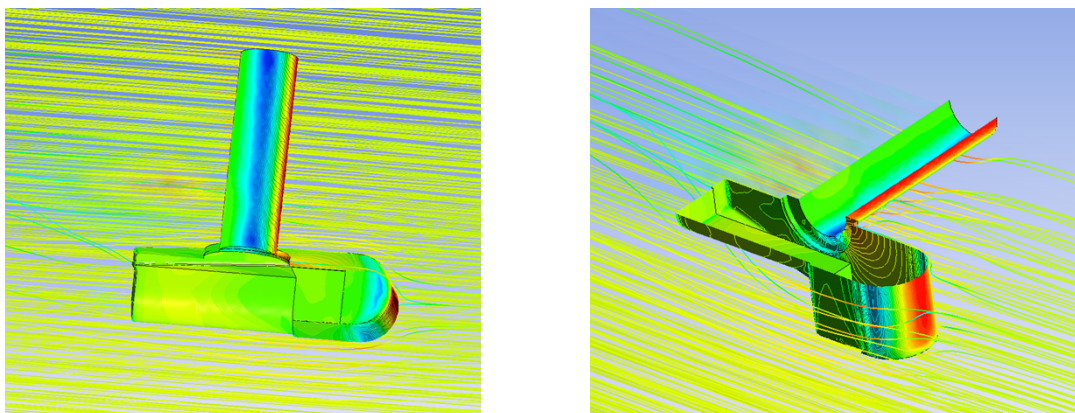
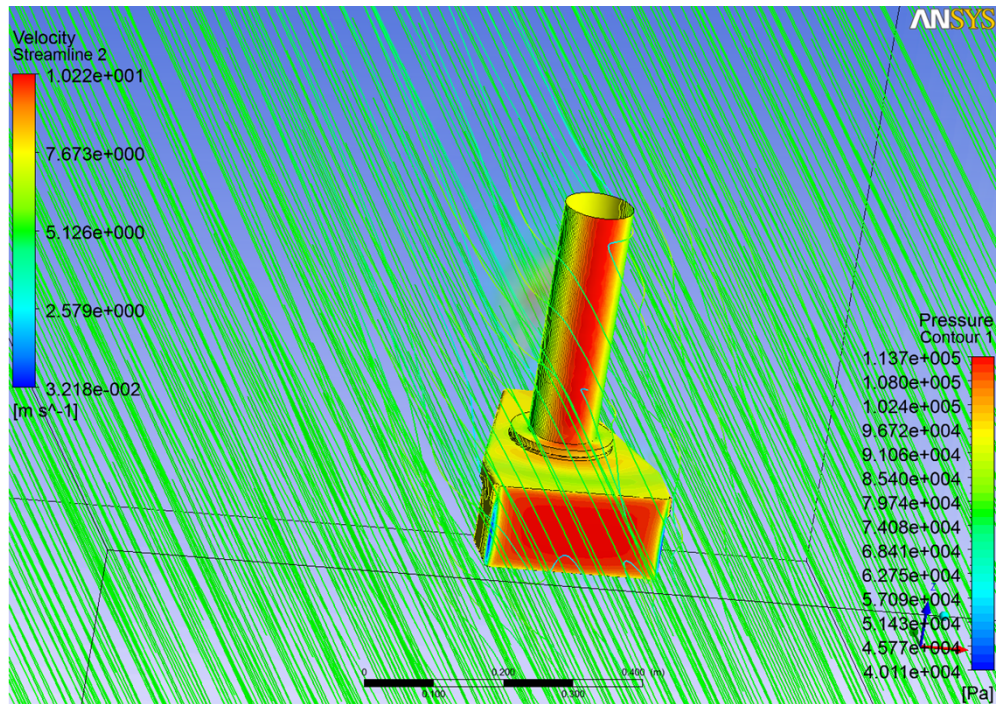
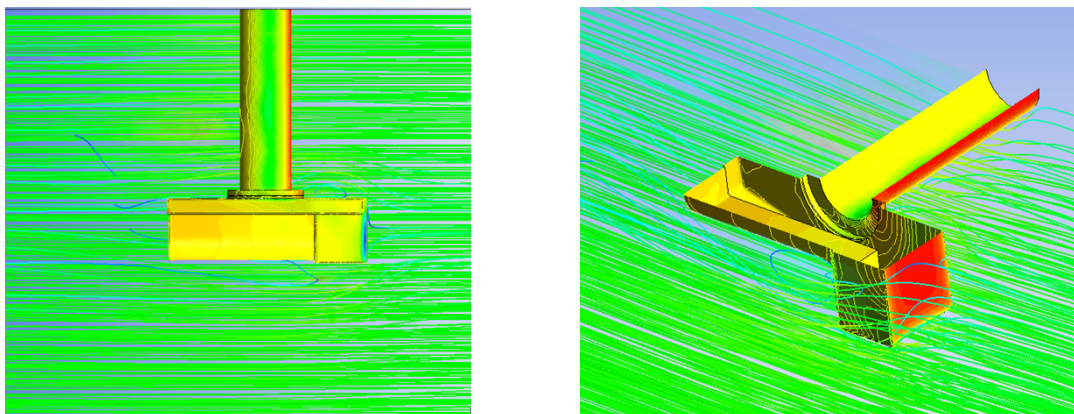

Figure 42: Flow around Single T20 (shallow) with Fairing, Cross Section of Symmetry Plane
Figure 43: Flow at 10 knots around Single T20 (shallow) without Fairing
Figure 44: Flow around Single T20 (shallow) without Fairing, Cross Section of Symmetry Plane
- T20 single head (shallow¹⁸) **with** front fairing (*Figure 41* and *Figure 42*) or **without** front fairing (*Figure 43* and *Figure 44*).
Figure 41 illustrates the flow at 10 knots around the T20 single head (shallow) with front fairing. The drag on the pole, sonar head, and bracket is in the region of 490N. The same situation without front fairing is shown in Figure 43.
Figure 42 is a cross section of the symmetry plane of the T20 single head (shallow). The front fairing and bracket assure a steady water flow around the receiver and projector. The same situation without front fairing is shown in Figure 44.
Figure 43 illustrates the flow at 10 knots around the T20 single head (shallow) without front fairing. The drag on the pole, sonar head, and bracket is in the range of 650N. The same situation with front fairing is shown in Figure 41.
Figure 44 is a cross section of the symmetry plane of the T20 single head (shallow). Without the front fairing the flow is still reasonable, but not as steady as with the fairing in front of the receiver. The same situation with front fairing is shown in Figure 42.